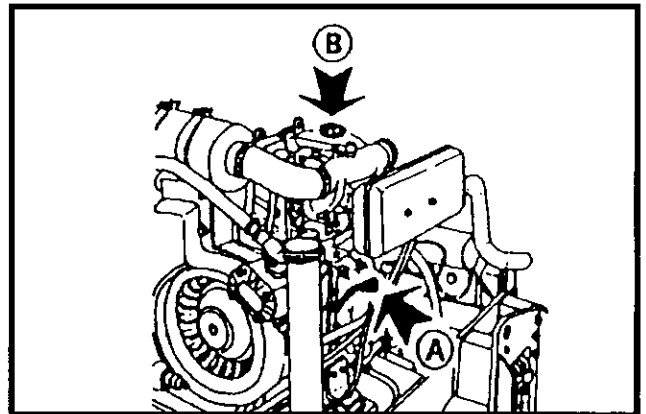

Figure 5-7 Engine Oil Dipstick and Filler
2. Pull out dipstick (A, Figure 5-7) and wipe clean with a lint-free, dry cloth. Push dipstick back into engine.
4. If oil level is low, add oil through the filler (B, Figure 5-7) as specified in Section 8 - Fuel And Lubricant Instructions.